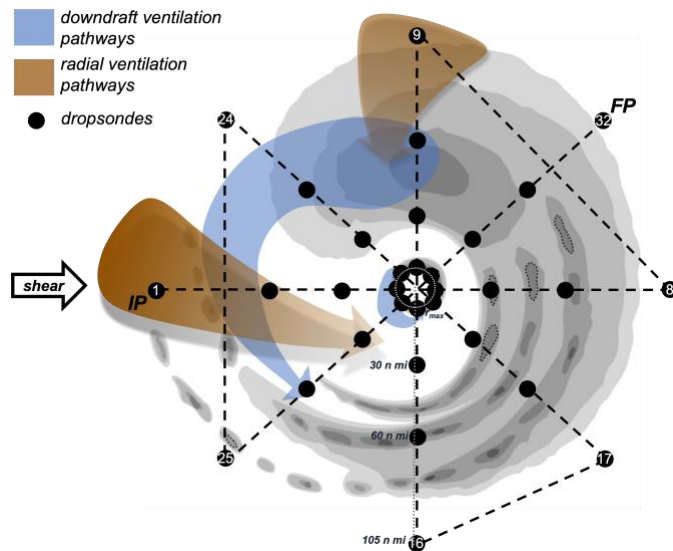

Fig. 1. P-3 Pattern #1 (rotated figure-4) for a TC in westerly shear. Background illustration of reflectivity adapted from Hense and Houze (2012).
Pattern: Rotated figure-4 (see Fig. 1), oriented such that the passes are aligned relative to the shear (e.g., upshear to downshear, left-of-shear to right-of-shear, downshear-right to upshear-left, and upshear-right to downshear-left) and centered on the low-level center. Alternatively, passes can be oriented relative to the vortex tilt. The initial point (IP) and final point (FP) are arbitrary.